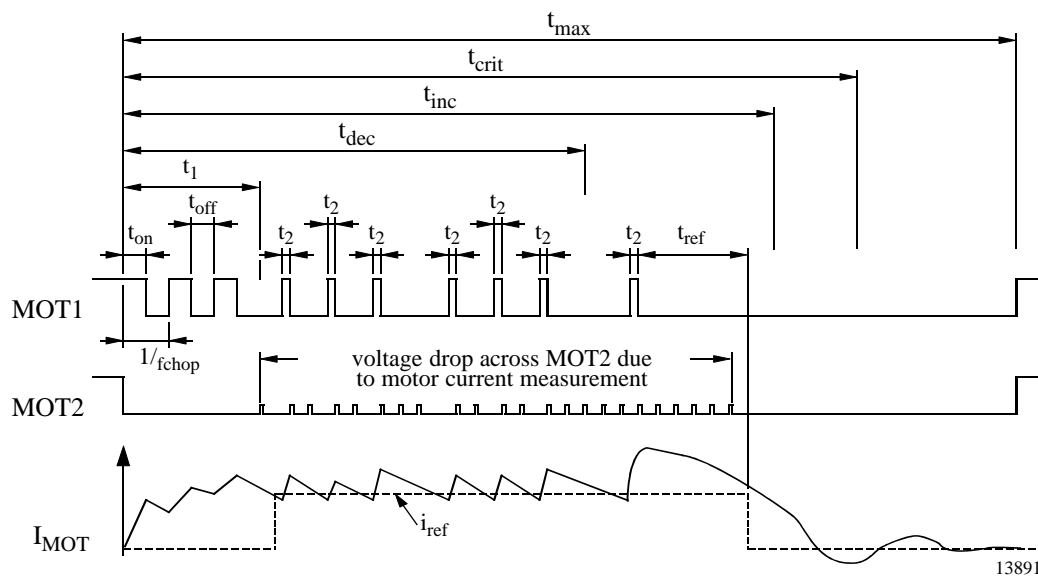
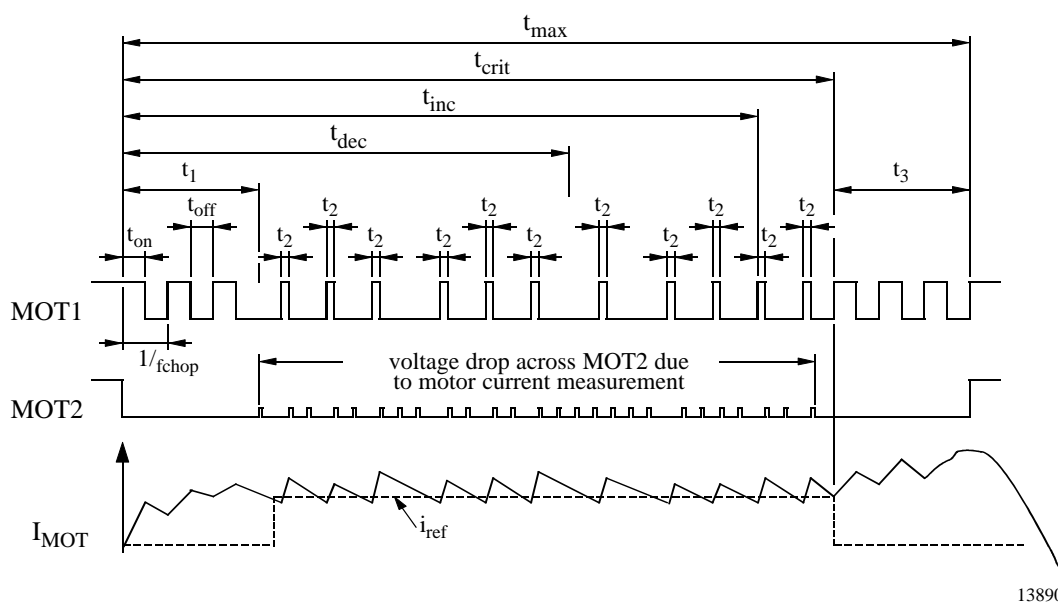

Figure 6. Motor pulse shape
Figure 7. Motor pulse shape (no rotation at  $t_{crit}$ )
The regulation is performed in the following way (please refer to figure 6 and 7):
If the motor current is found to be below  $i_{ref}$ , then a drive pulse  $t_2$  is generated (see figure 6). At the end of the first  $t_2$  pulse, the motor current is again compared to  $i_{ref}$  and as soon as the motor current falls again below  $i_{ref}$ , a new drive pulse  $t_2$  is generated (see figure 6).
If the motor current does not drop below  $i_{ref}$  during the time  $t_{ref}$ , then no further motor pulses  $t_2$  are generated (see figure 6).
If the motor pulses  $t_2$  are not terminated at  $t_{crit}$ , then an additional motorpulse  $t_3$  (duty cycle 50% or 100%) will be generated (see figure 7).
**Note:** For sake of simplicity, only the  $t_1$ -portion of the motorpulse  $t_{PW}$  is shown in figure 4 and figure 5. The complete shape of the motorpulse is shown in figure 6 and figure 7.